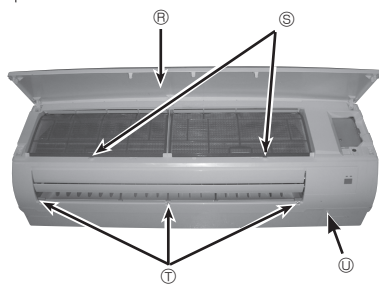

Fig. 6-2
- (E) Wired remote control terminal board: 1 and 2, do not have polarity.
- (H) Terminal screw
- (J) Wired remote control cord
- ① Press and unlock the knobs on both sides of the front grille and lift the front grille until it is level. Pull the hinges forward to remove the front grille. (Fig. 6-2)
- ② Remove 3 screw caps of the panel. Remove 5 screws. (Fig. 6-2)
- ⑦ Remove the screw of the corner box. (Fig. 6-2)